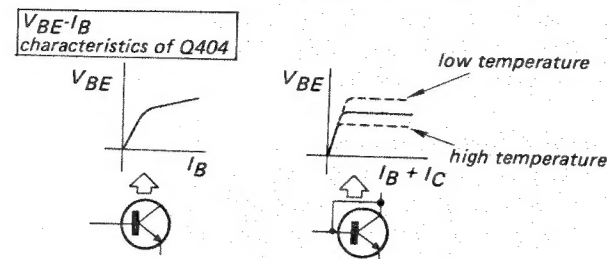

Fig. 10
- D401, Q403, Q404 and D402 form a thermally-compensated constant voltage circuit, which operates as follows (the voltages referred to here are relative to the B- voltage): D402 (EQB01-05) is a 5V zener diode which maintains the emitter of Q404 at +5V level. To obtain a flat base voltage (V_{BE}) from the collector of Q404, the base and collector are connected as shown in Fig. 10. The characteristics referring to this connection are also shown in Fig. 10. When the value of V_{BE} reaches the "shoulder" of the curve, it suddenly becomes constant, and subsequently varies only with changes of temperature. Any temperature-related variations in V_{BE} of Q404 are fed to Q402, but since Q402 and Q404 are identical transistors, these variations are automatically compensated for by the other transistor. Hence, Q402 and Q404 serve to compensate for any voltage variations caused by changes of temperature.